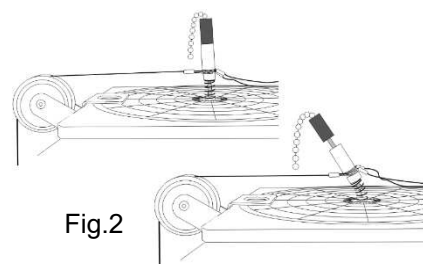

Fig.2
1. Pull DILP out a bit to unlock BRSB, a whole of DILP and BRSB leans in a certain direction and indicates the direction of the force acting on the BRSB. (see Fig.2).
1. Pull DILP out a bit to unlock BRSB (not fully pull out), a whole of DILP and BRSB leans in a certain direction and indicates the direction of the force acting on the BRSB. (see Fig.2 & 7).